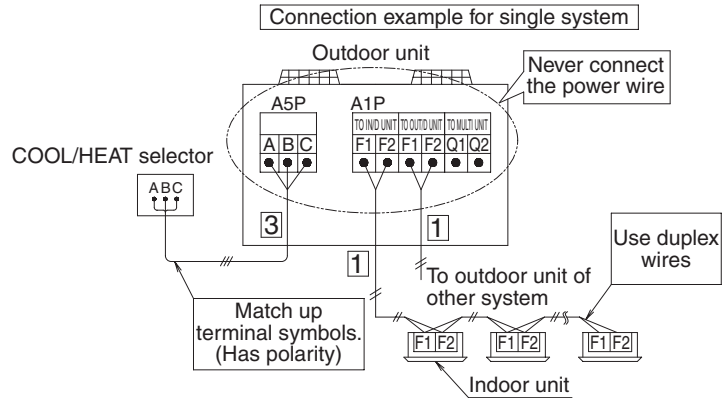

figure 21
- Referring to figure 21, 22 connect the transmission wiring between outdoor unit and indoor unit, outdoor unit and outdoor unit of other system, outdoor unit and outdoor unit of same system (only multi system) or to COOL/HEAT selector (except RXQ-P).
- Transmission wiring (About the symbol 1 ~ 3, see figure 21, 22) should be done within the following limitations.